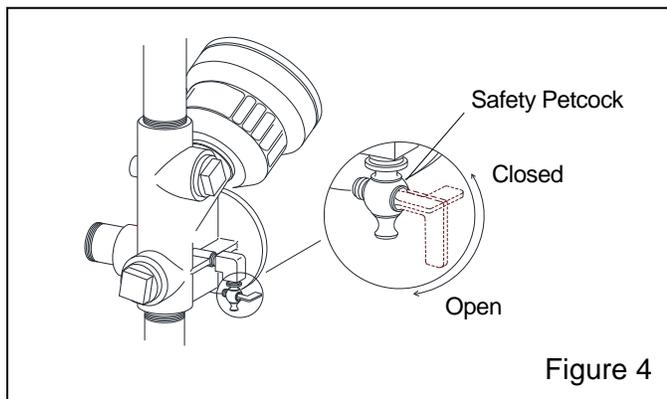

Figure 4
3.1.4 Open the safety petcock on the Millennium valve. It is open when the lever is in-line with the petcock, as shown in Figure 4.